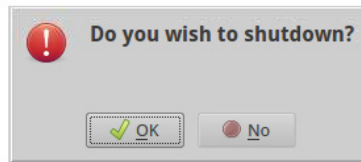

Figure 40: Analyzer Shutdown Prompt
2. A pop-up box appears on the *Main Panel* and prompts you to verify that you want to shut down the analyzer to prevent accidental button presses from causing interruption in data acquisition. (Figure 40)
3. Click the **OK** button to halt data acquisition, close the current data file, and display the shutdown screen. (Figure 40)